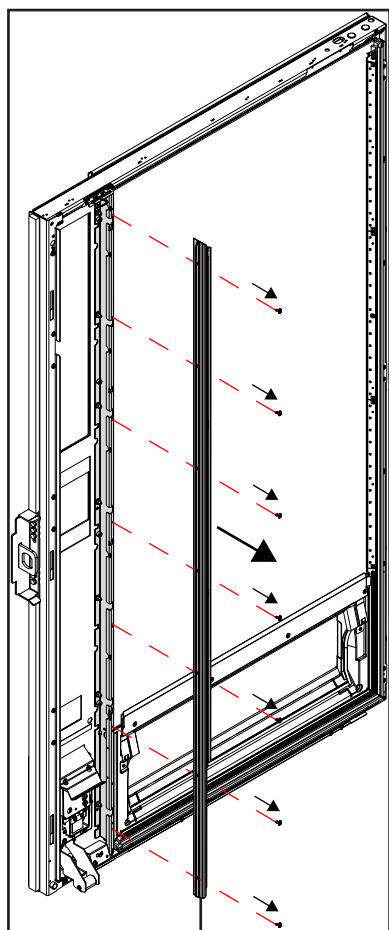

Figure 4
3. Remove 7x fillister head self-tapping screw with M4 hexalobular socket (Fig. 4).
4. Remove the sealing profile on the left (Fig. 4).